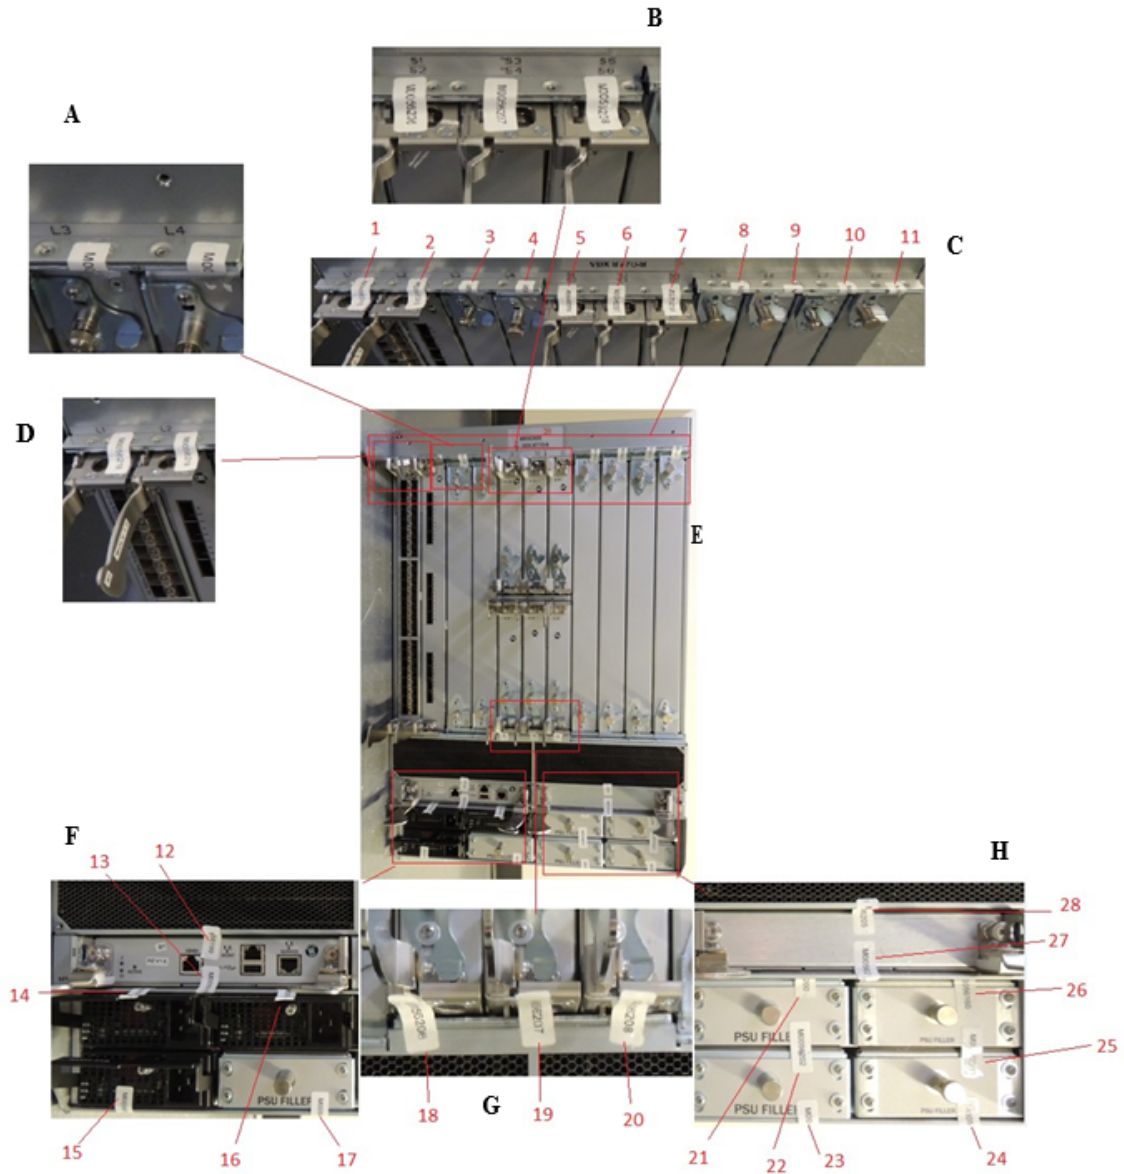

Figure 29 Brocade VDX 8770-8 AC Port Side Seal Locations
Twenty-eight (28) tamper evident seals are required to complete steps 1 to 6 on the port side as illustrated in Figure 29. Unused slots must be filled with the module or filler panel appropriate for that slot to maintain adequate cooling.